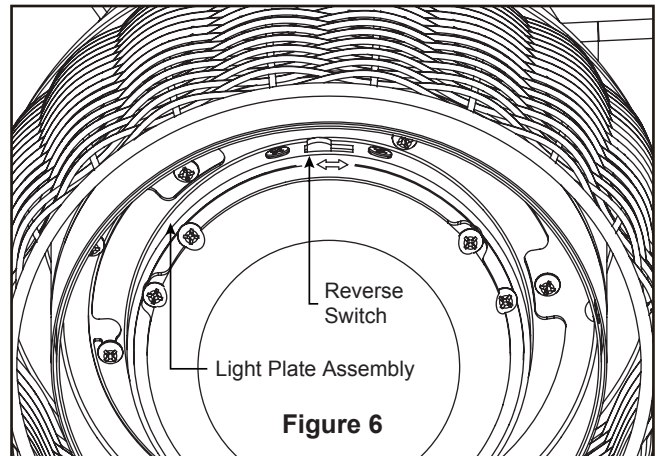

Figure 6
- ### 6. If airflow is desired in the opposite direction, turn the fan off and wait for the blades to stop turning. Remove the glass then slide the reverse switch on the light plate assembly to the opposite position. Assemble the glass to the housing assembly by twisting in a clockwise direction and turn fan on again. (Figure 6)